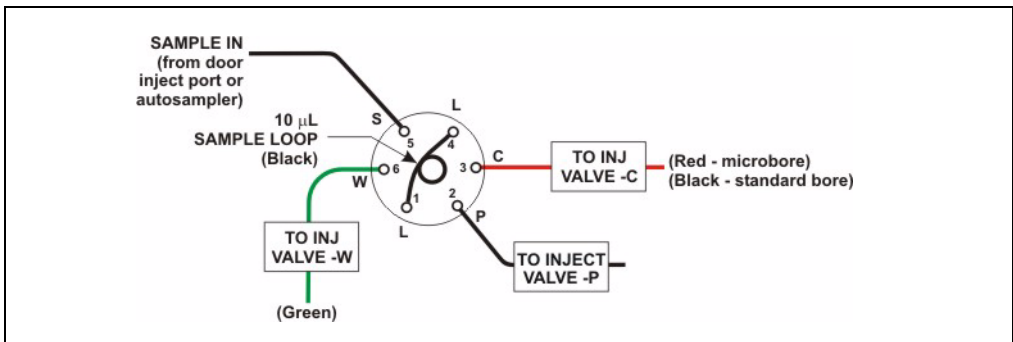

Figure 9-23. Injection Valve Plumbing (6-Port Valve)
6. Reconnect all liquid lines to the injection valve (see Figure 9-23).